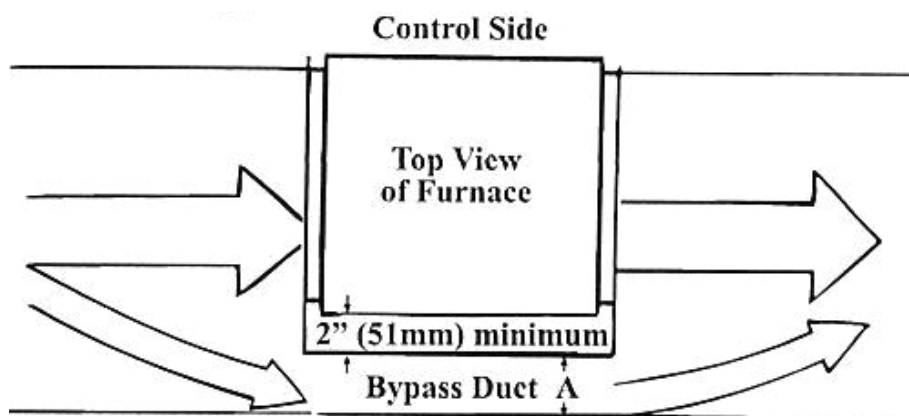

Figure 14. Bypass Duct
When the CFM of air throughput is greater than that which is desirable or permissible for the unit, a bypass duct (see Figure 14) may be constructed. Determine the correct size of the bypass duct as follows:
3. Refer to Table 12 to determine duct size based on closest bypass CFM value in column topped by closest pressure drop value (e.g., pressure drop = 0.38 (go to 0.40 column) and bypass CFM = 790 (900 is closest value in that column), therefore, bypass duct A dimension (see Figure 14) = 3 inches (76 mm).
Dimension A (See Figure 14) in Inches (mm)	Pressure Drop (IN WC)